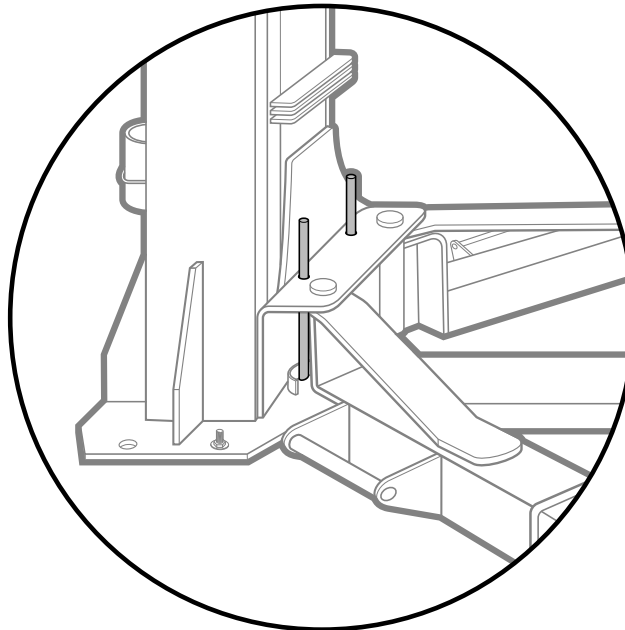

Fig. 24
5. Make sure that the arm locking device works correctly, pressing the extension of the thrusting pin upwards and turning the arm in one of the 2 directions, so that after a brief rotation the pin returns to its position (fig. 24).